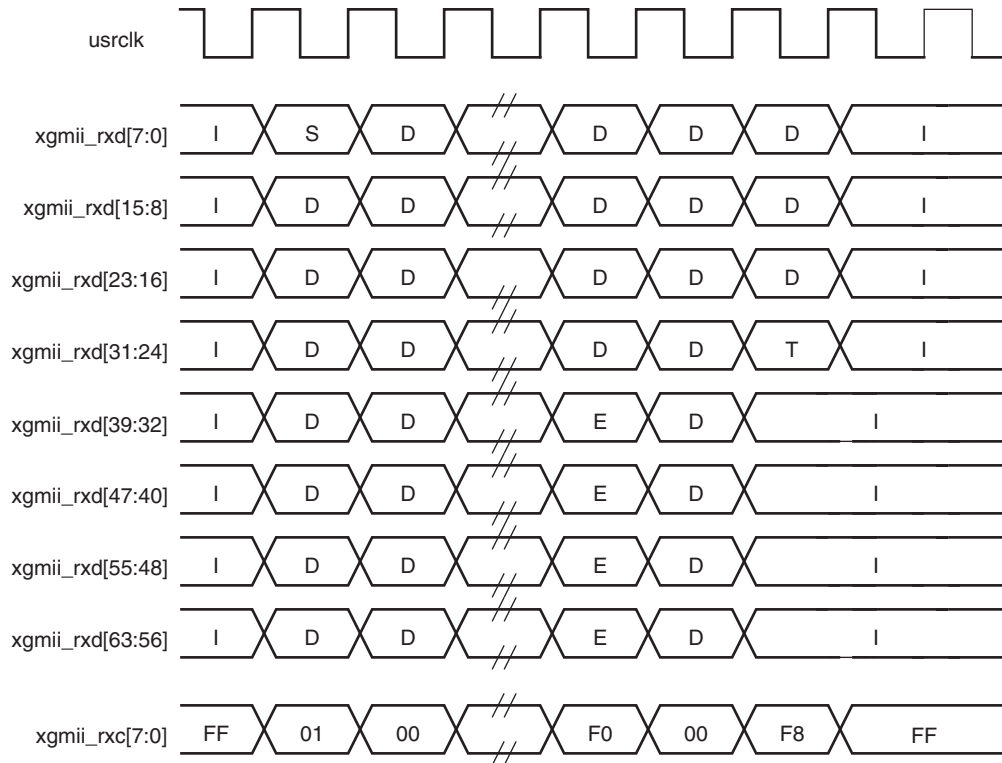

Figure 3-11: Frame Reception Across the Internal 64-bit Client Interface
The timing of a normal inbound frame transfer is shown in Figure 3-11. As in the transmit case, the frame is delimited by a Start character (S) and by a Terminate character (T). The Start character in this implementation can occur in either lane 0 or in lane 4. The Terminate character, T, can occur in any lane.